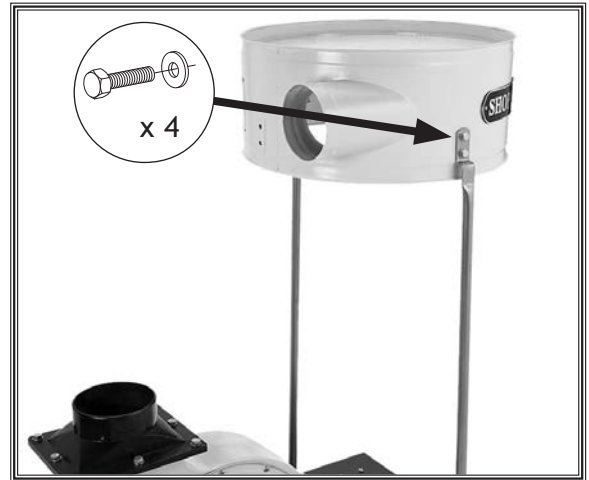

Figure 12. Separator attached to front and rear supports.
- With assistance from another person, attach separator to the front and rear supports, as shown in **Figure 12**, with (4) M8-1.25 x 16 hex bolts and (4) 8mm flat washers.